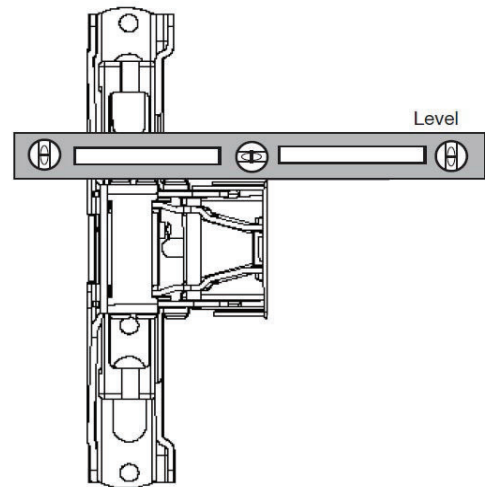

Figure 14
4. Level device and slightly tighten screws (see Figure 14).